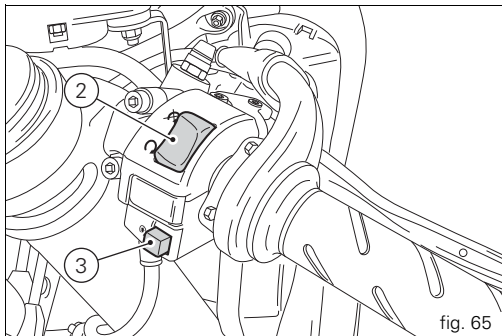

fig. 65
2) Check that the stop switch (2, fig. 65) is positioned to  (RUN), then press the starter button (3, fig. 65).